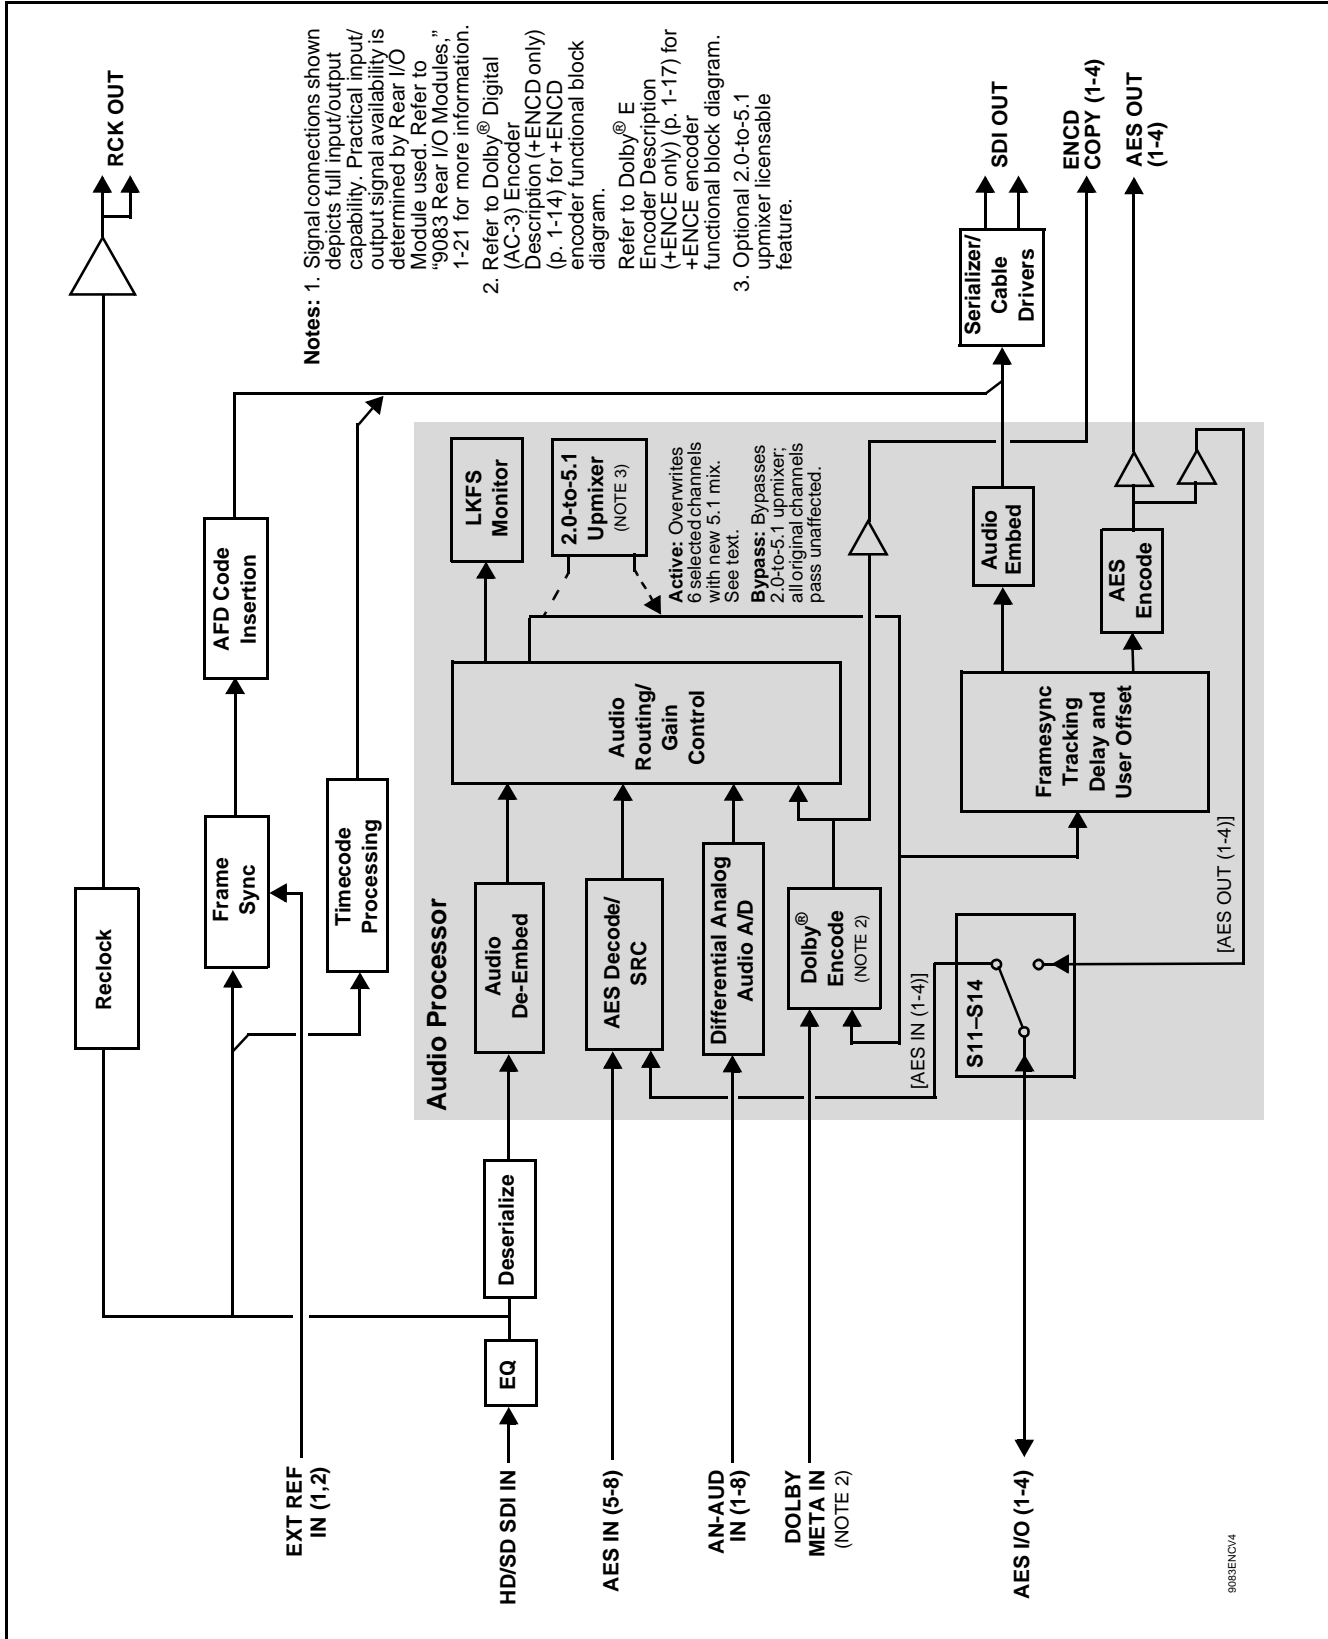

Figure 1-1 9083 Functional Block Diagram
Figure 1-1 shows a functional block diagram of the 9083. The 9083 frame synchronizer also includes a full 16-channel audio embedder/de-embedder, an 8-channel, and a 24-bit balanced analog-to-digital audio converter. The 9083 also handles AFD code detection/insertion. Additionally, the **+ENC D** option provides Dolby® Digital™ (AC-3) encoding using any of the audio sources supported by the 9083, and using either external or internally generated metadata. Similarly, the **+ENC E** option provides Dolby® E encoding using any of the audio sources supported by the 9083, and using either external or internally generated metadata.
**Note:** As shown in Figure 1-1, the 9083 equipped with either the **+ENCD** or **+ENCE** option provides eight discrete AES input pair ports and four discrete AES output pair ports. On Rear I/O Modules having limited AES I/O capabilities, switches S11 thru S14 allow available rear module BNC connectors to be allotted between AES inputs and outputs as desired. Buffered copies of **AES OUT (1-4)** are available as dedicated outputs and as respective outputs fed through S11 – S14 on the card.